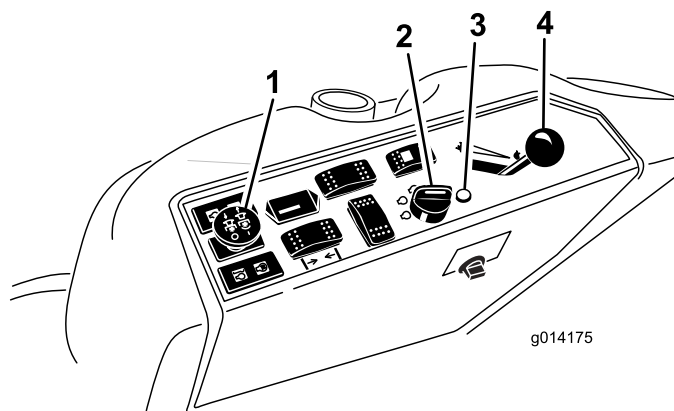

Figure 13
4. Move the PTO (power take off) switch to the off position (Figure 13).
5. Move the throttle lever midway between the Fast and Slow positions (Figure 13).